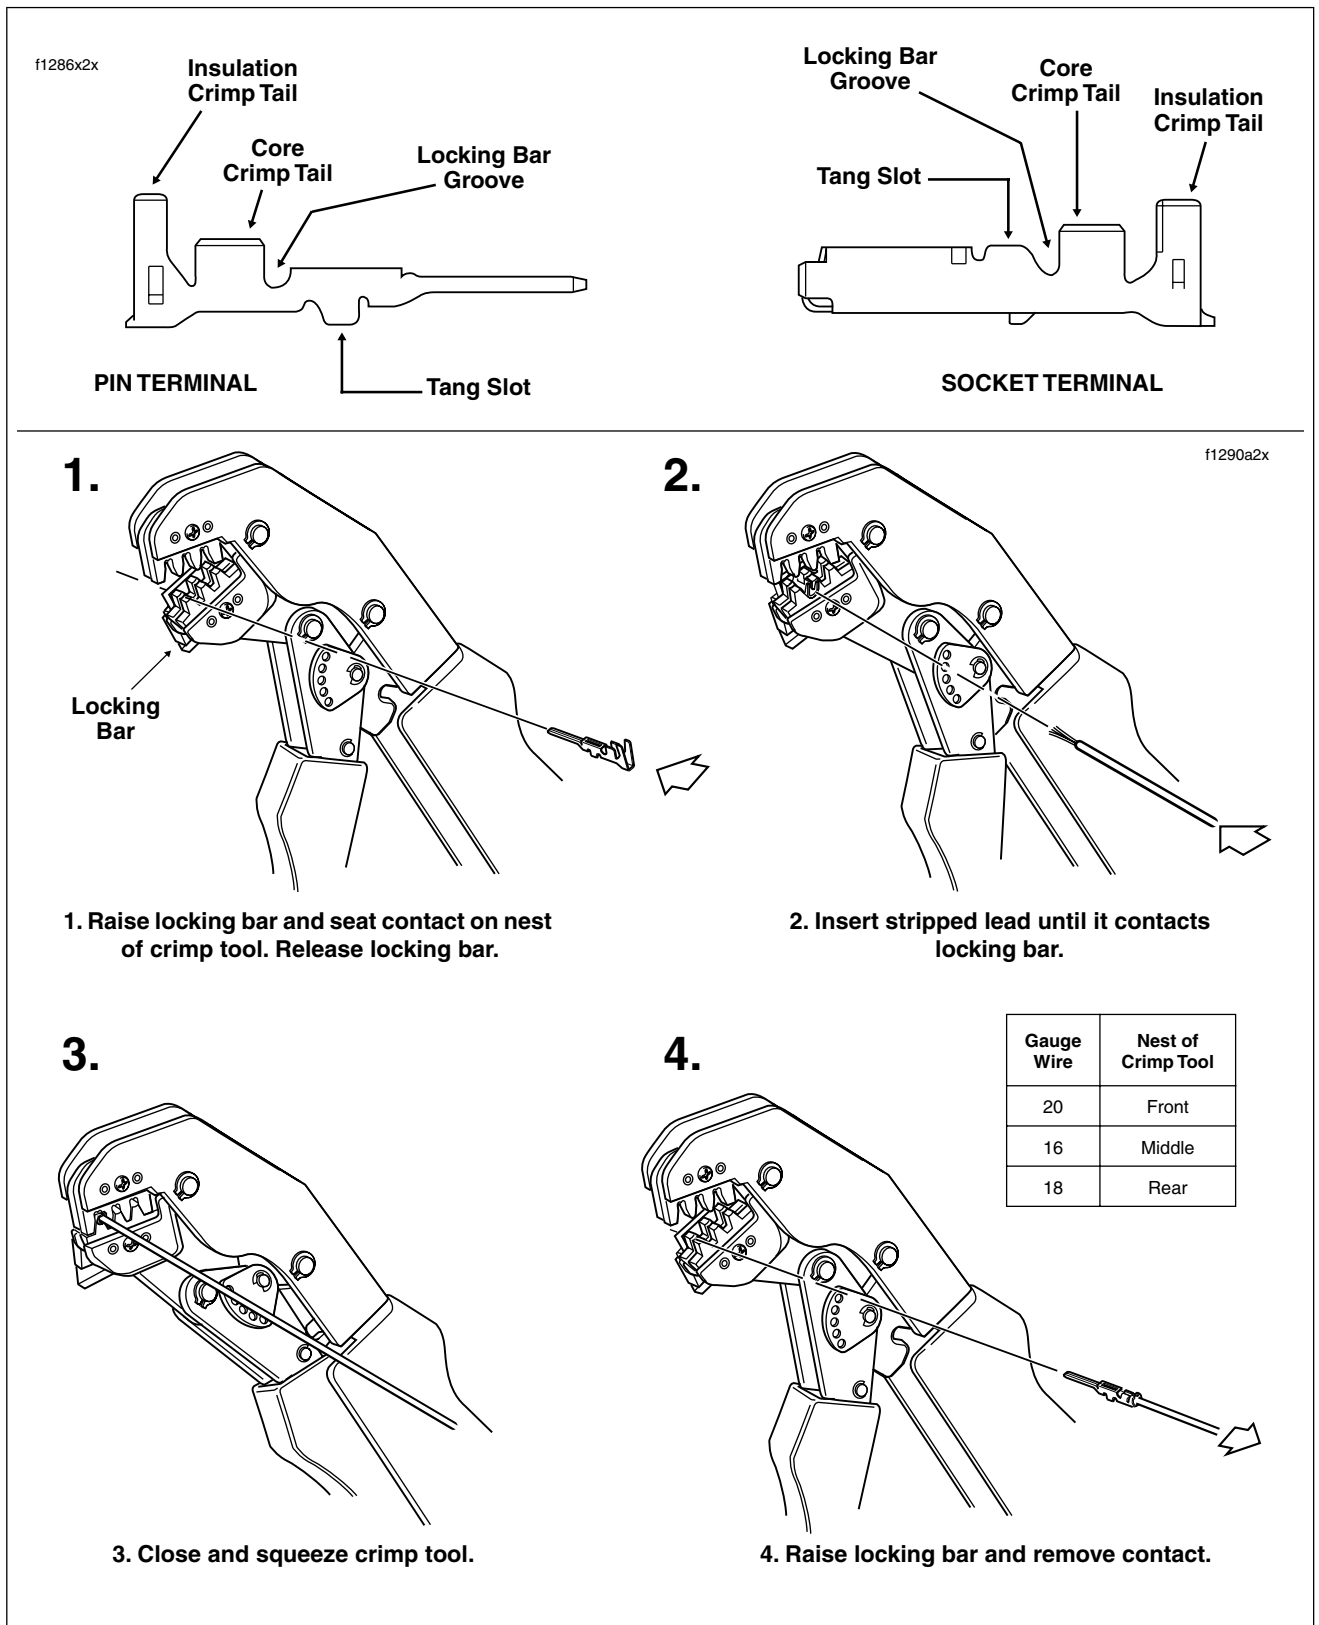

Figure B-15. Multilock Crimping Procedure
2. Raise locking bar by pushing up on bottom flange. With the crimp tails facing upward, insert contact (socket/pin) through locking bar, so that the closed side of the contact rests on the nest (concave split level area) of the crimp tool). Use the front nest for 20 gauge wire, the middle for 16 gauge and the rear for 18 gauge. See Figure B-15.